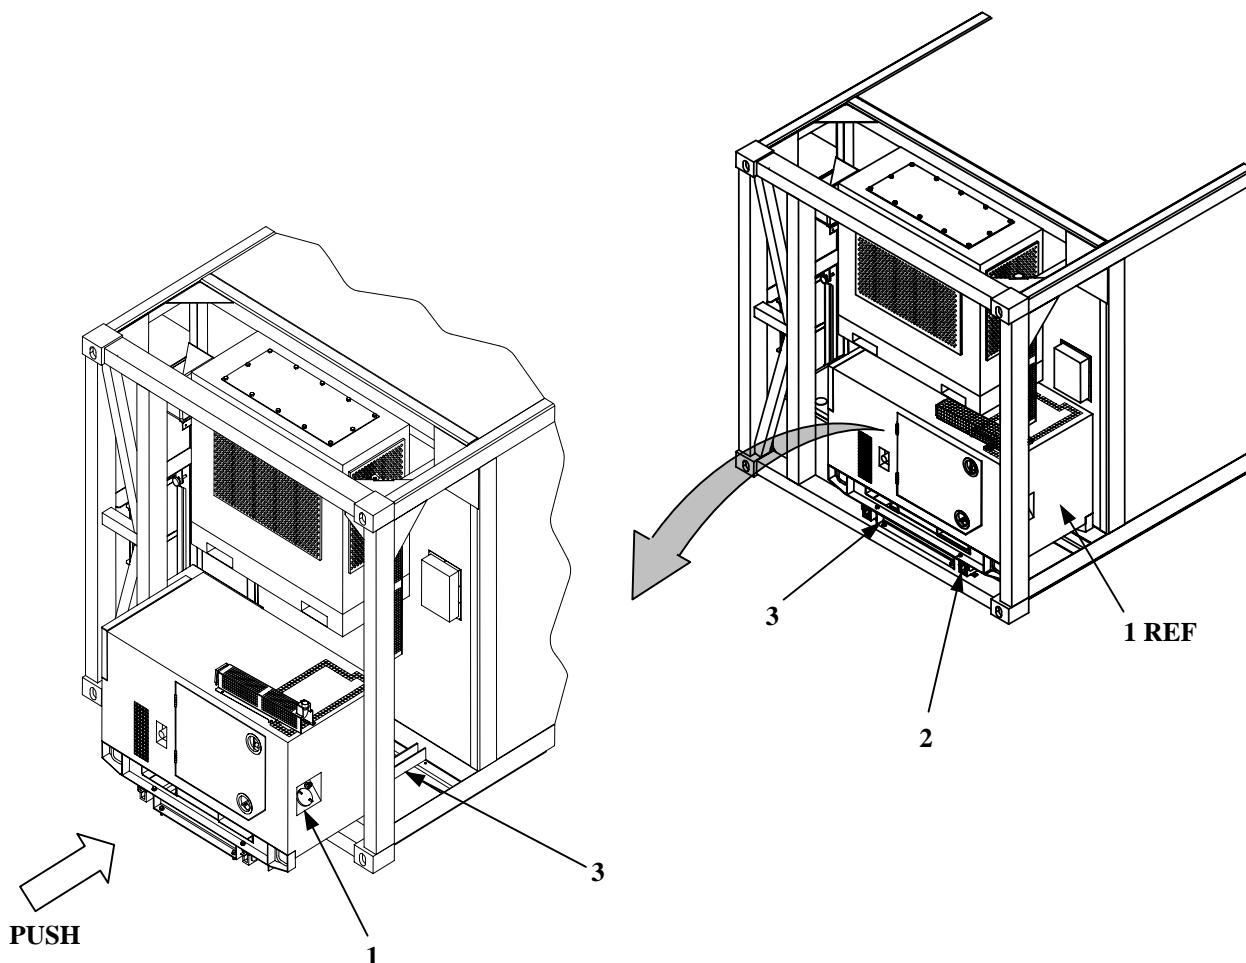

Figure 10. Generator Set
1. Push generator set (1, Figure 10) in from its extended position as follows:
- a. With another person (one on each side), press down the extension rail retaining spring clips (2) and push the generator set (1) towards the refrigerated container until it locks in the stored position.
- b. Attach the generator set lock down bolts (2) to lock extension rails (3).